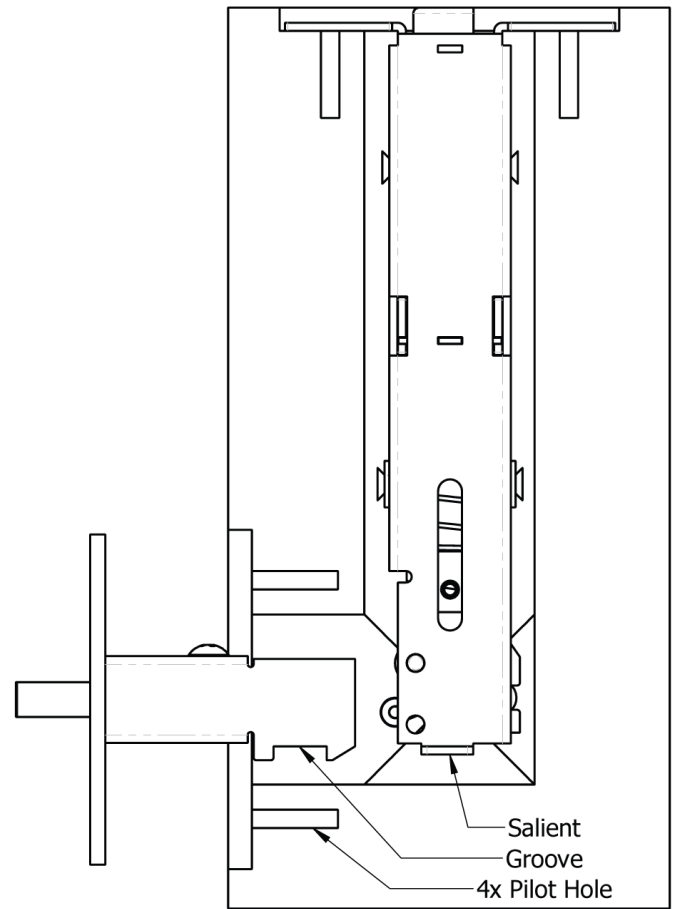

Figure 4
- b. Verify if the groove on the cam housing is hooked on the salient in the latch bolt housing. See Figure 4.